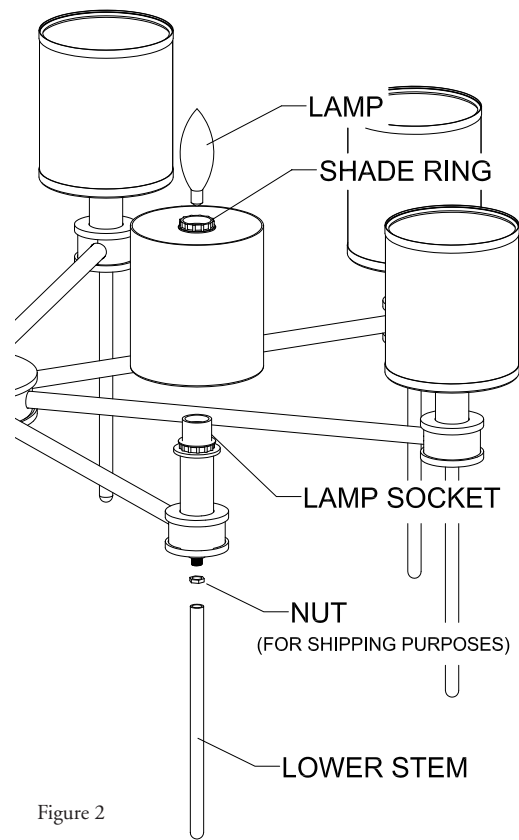

Figure 2
Step 14 Install the shade over the socket and secure into position with the shade ring. (See Figure 2)
Step 15 Install candelabra Base, Type B-10 lamps into the sockets and thread firmly into the socket. DO NOT exceed the relamp label recommendations. (See Figure 2)